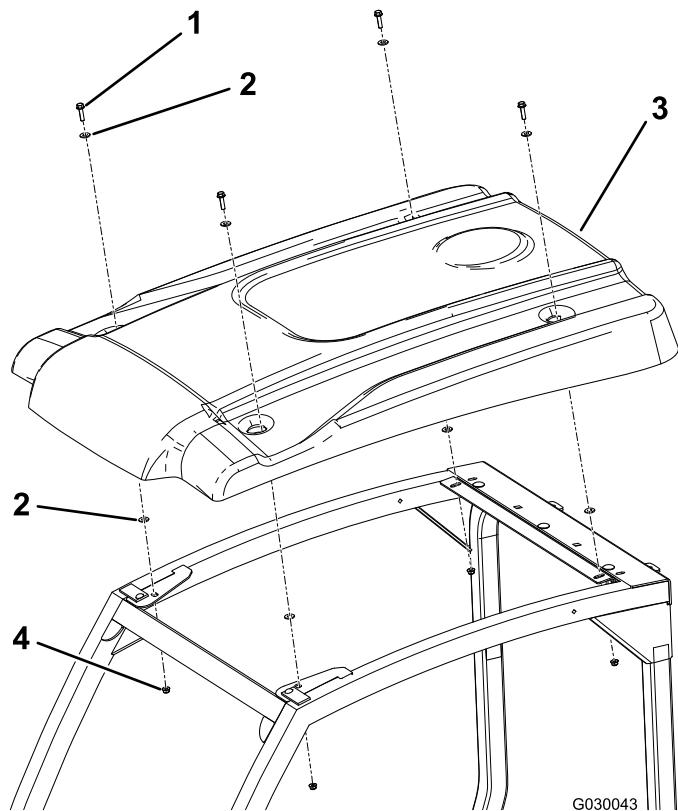

Figure 5
2. Position the canopy as shown in Figure 5.